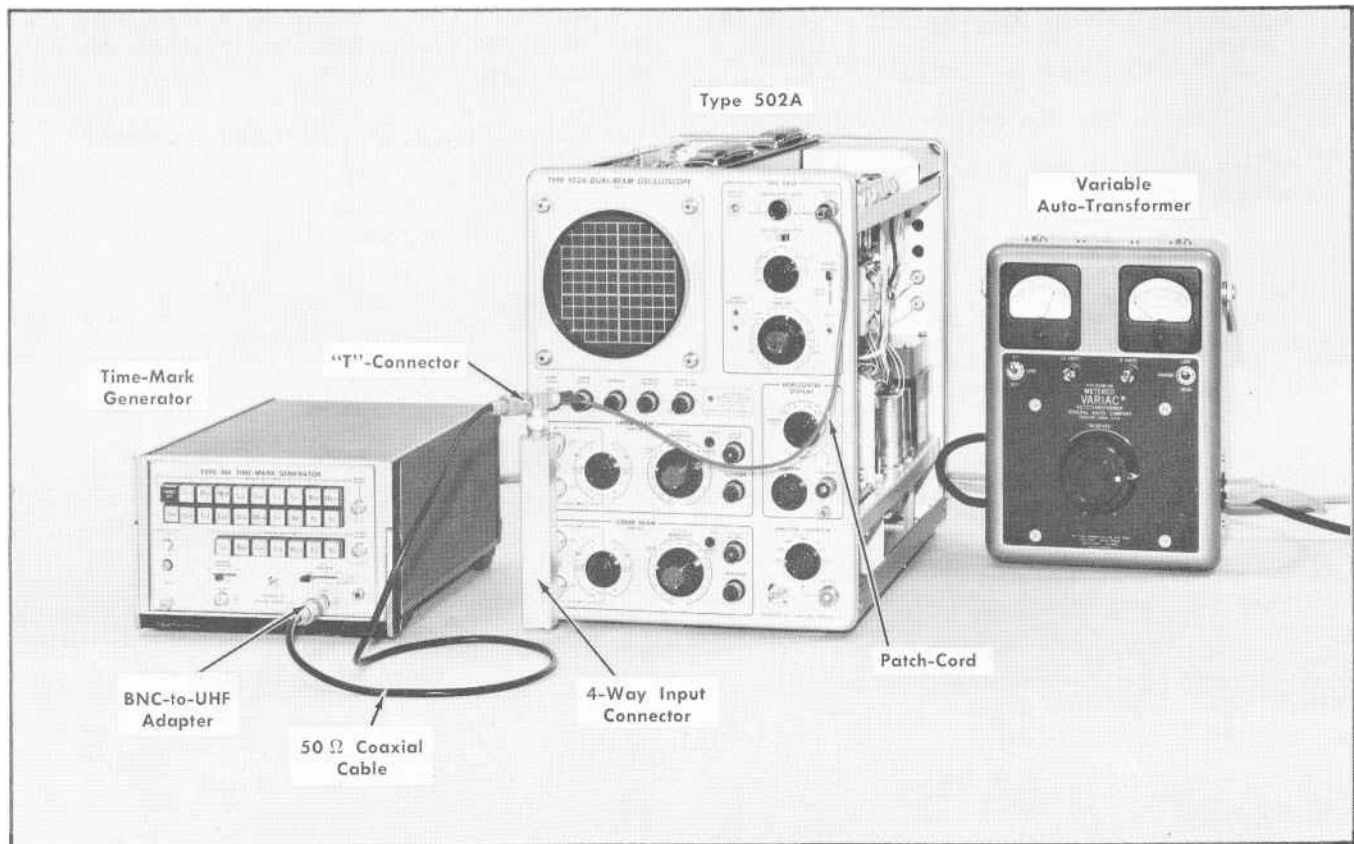

Fig. 6-13. Test equipment for steps 9, 10 and 11.
- Set up the equipment as shown in Fig. 6-13.